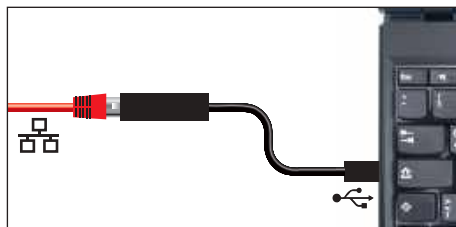

Fig. 7 USB to Ethernet converter
- ▶ USB to Ethernet converter (Fig. 7). Makes it possible to connect the Ethernet connection interface (see page 12) to the USB port of a computer / laptop.